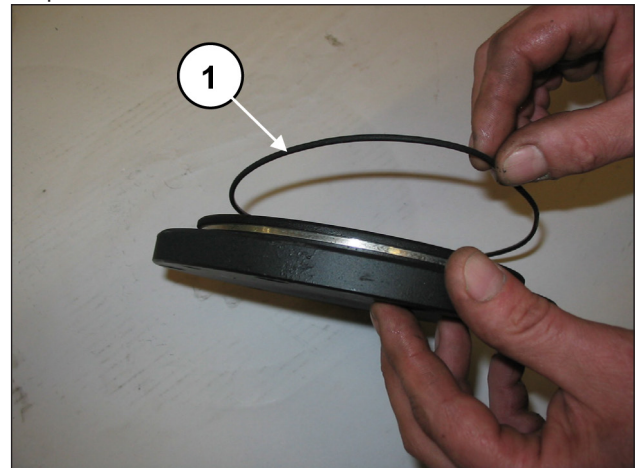
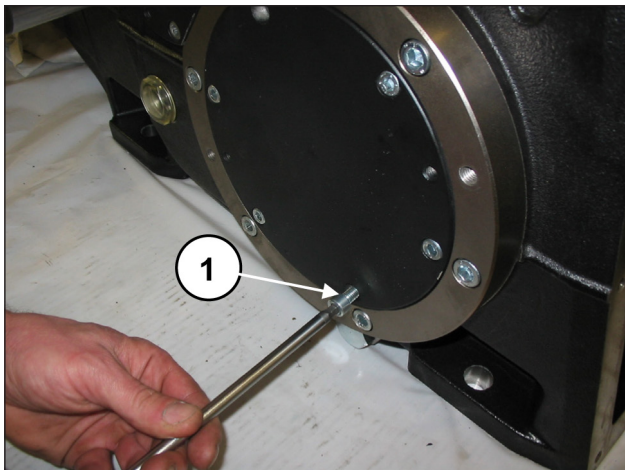

Fig. 90
Fig. 91
Mount the two bearing covers (with their O-rings) (pos. ①, Fig. 90) using 6+6 x M8x20 screws (pos. ①, Fig. 91).